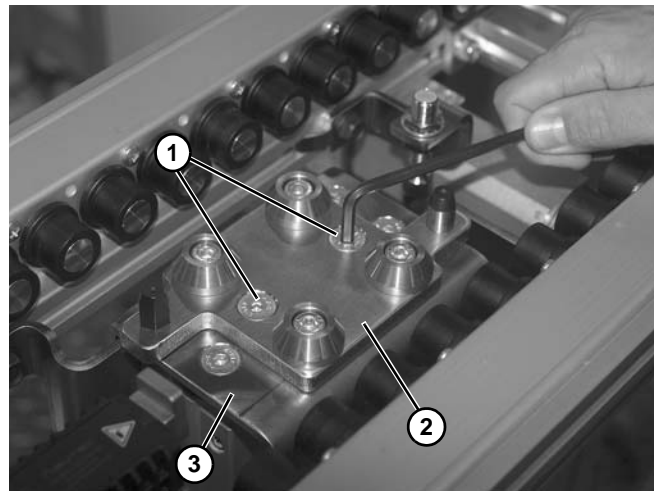

Figure 96
3. Remove two screws (**Figure 96, item 1**) holding lift station platform (**Figure 96, item 2**) onto mounting plate (**Figure 96, item 3**).